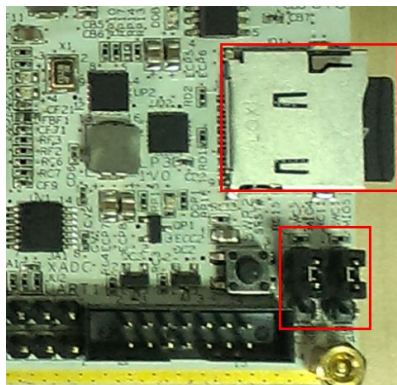

Figure 1 TF card boot mode
- Select TF card as the boot mode. Figure 1 shows how to configure it.